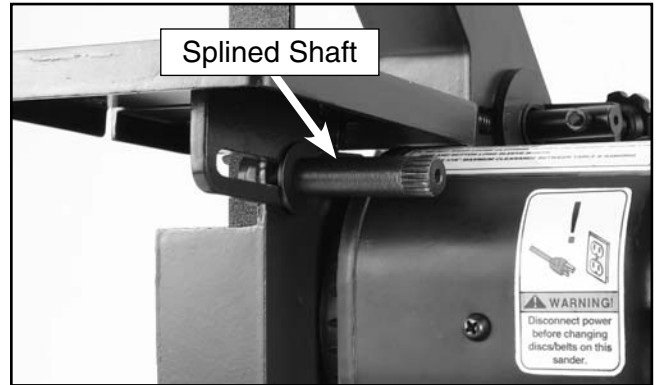

Figure 9. Splined lever shaft installed.
4. Install the flat washer and thread the splined shaft onto the square head bolt as shown in **Figure 9**.